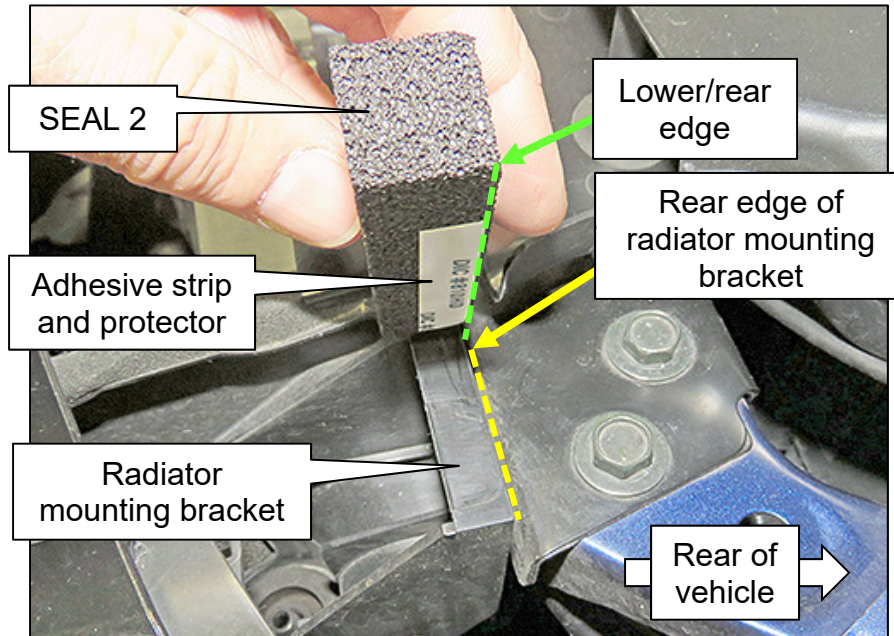
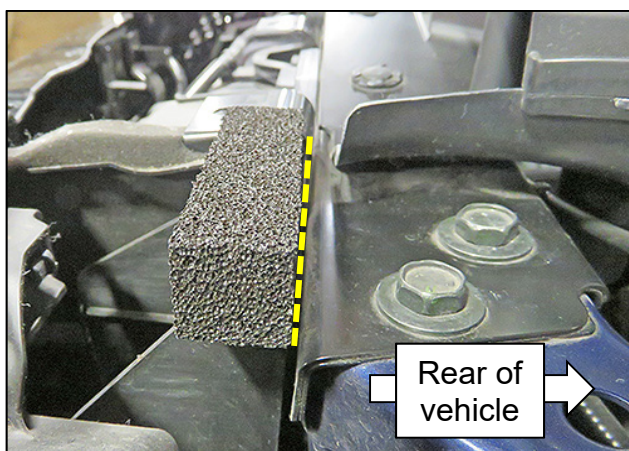

Figure 7
Figure 8
- a. Confirm that SEAL 2 is oriented with the adhesive strip facing down and toward the rear of the vehicle (Figure 7).
- the lower/rear edge of SEAL 2 (Figure 7) is aligned with the rear edge of the radiator mounting bracket where shown in Figure 7 and Figure 8,